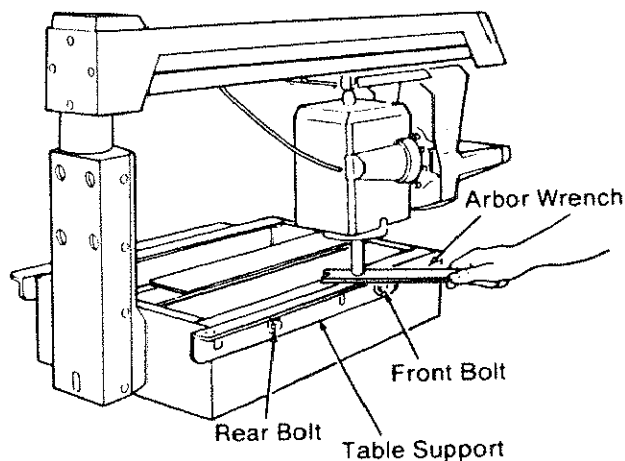

Fig. 40
14. Mark the point on the *table support* under the center of the *arbor shaft*. (Figure 40)
15. Place the *arbor wrench* over this point. (Figure 40)